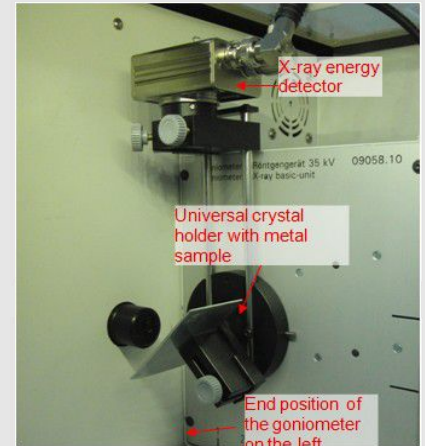

Fig. 3: Goniometer set-up
- Bring the goniometer block and the detector to their respective end positions on the left. Bring the detector to the 90° position in the 1:2 coupling mode (Fig. 3).